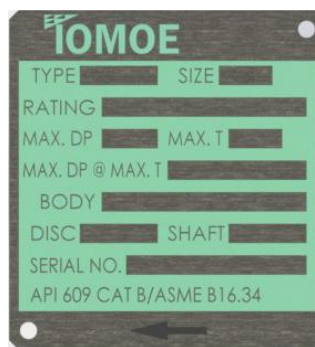
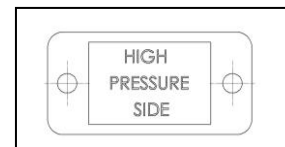

Fig. 2b
Fig. 2c
- The valve is designed to seal against bi-directional flow. However enhanced sealing performance will be achieved with the upstream flow against the shaft side of the disc. This 'preferred flow direction' is shown on the valve nameplate (Item 19) or by the high-pressure side label (Item 48) attached to the valve body. (see fig. 2b & fig 2c)
The following items are the recommended field replaceable spare parts (per valve). All other components should only be replaced by Tomoe Valve or an authorised representative. When requesting spares it is important that the relevant valve serial number (located on the valve nameplate – see fig 2b) is supplied to Tomoe. This ensures that the correct parts are supplied for any particular valve.